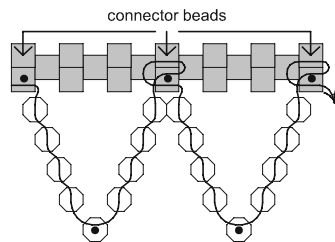

Fig. 1
2. With the needle extending from what will be a connector bead (CB, indicated with a dot in the middle) on the peyote beaded foundation, pick up the beads (an odd number) for the first swag of the growth row. In Figure 1, each swag in the growth row consists of nine beads.
6. When the last swag has been added, bring the needle through beads of the first swag until it is extending from the center connector bead. In the sample shown in Figure 1 you would go through the first five beads.